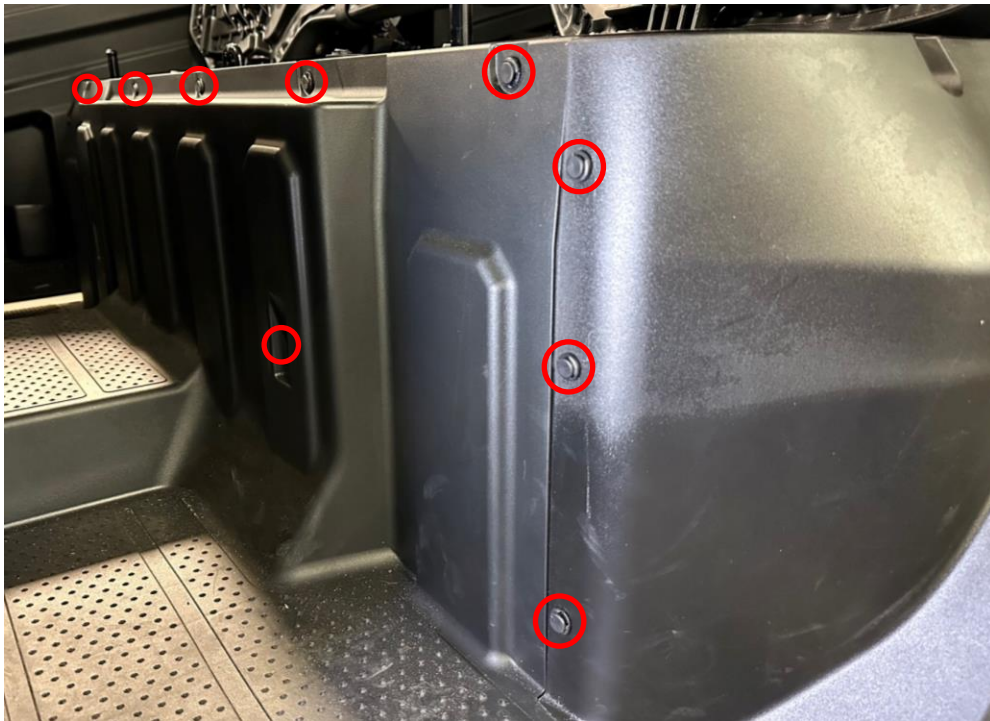

**Figure 9: Remove the front seat.**
7. Remove the front seat by releasing the center latch, pulling up around the front edge to release the detents, and unhooking the back edge under the back rests. See Figure 9.